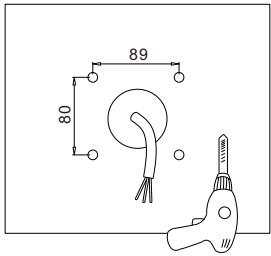

Figure 7
1. Cut holes on the wall according to locating plate. (Figure 7)